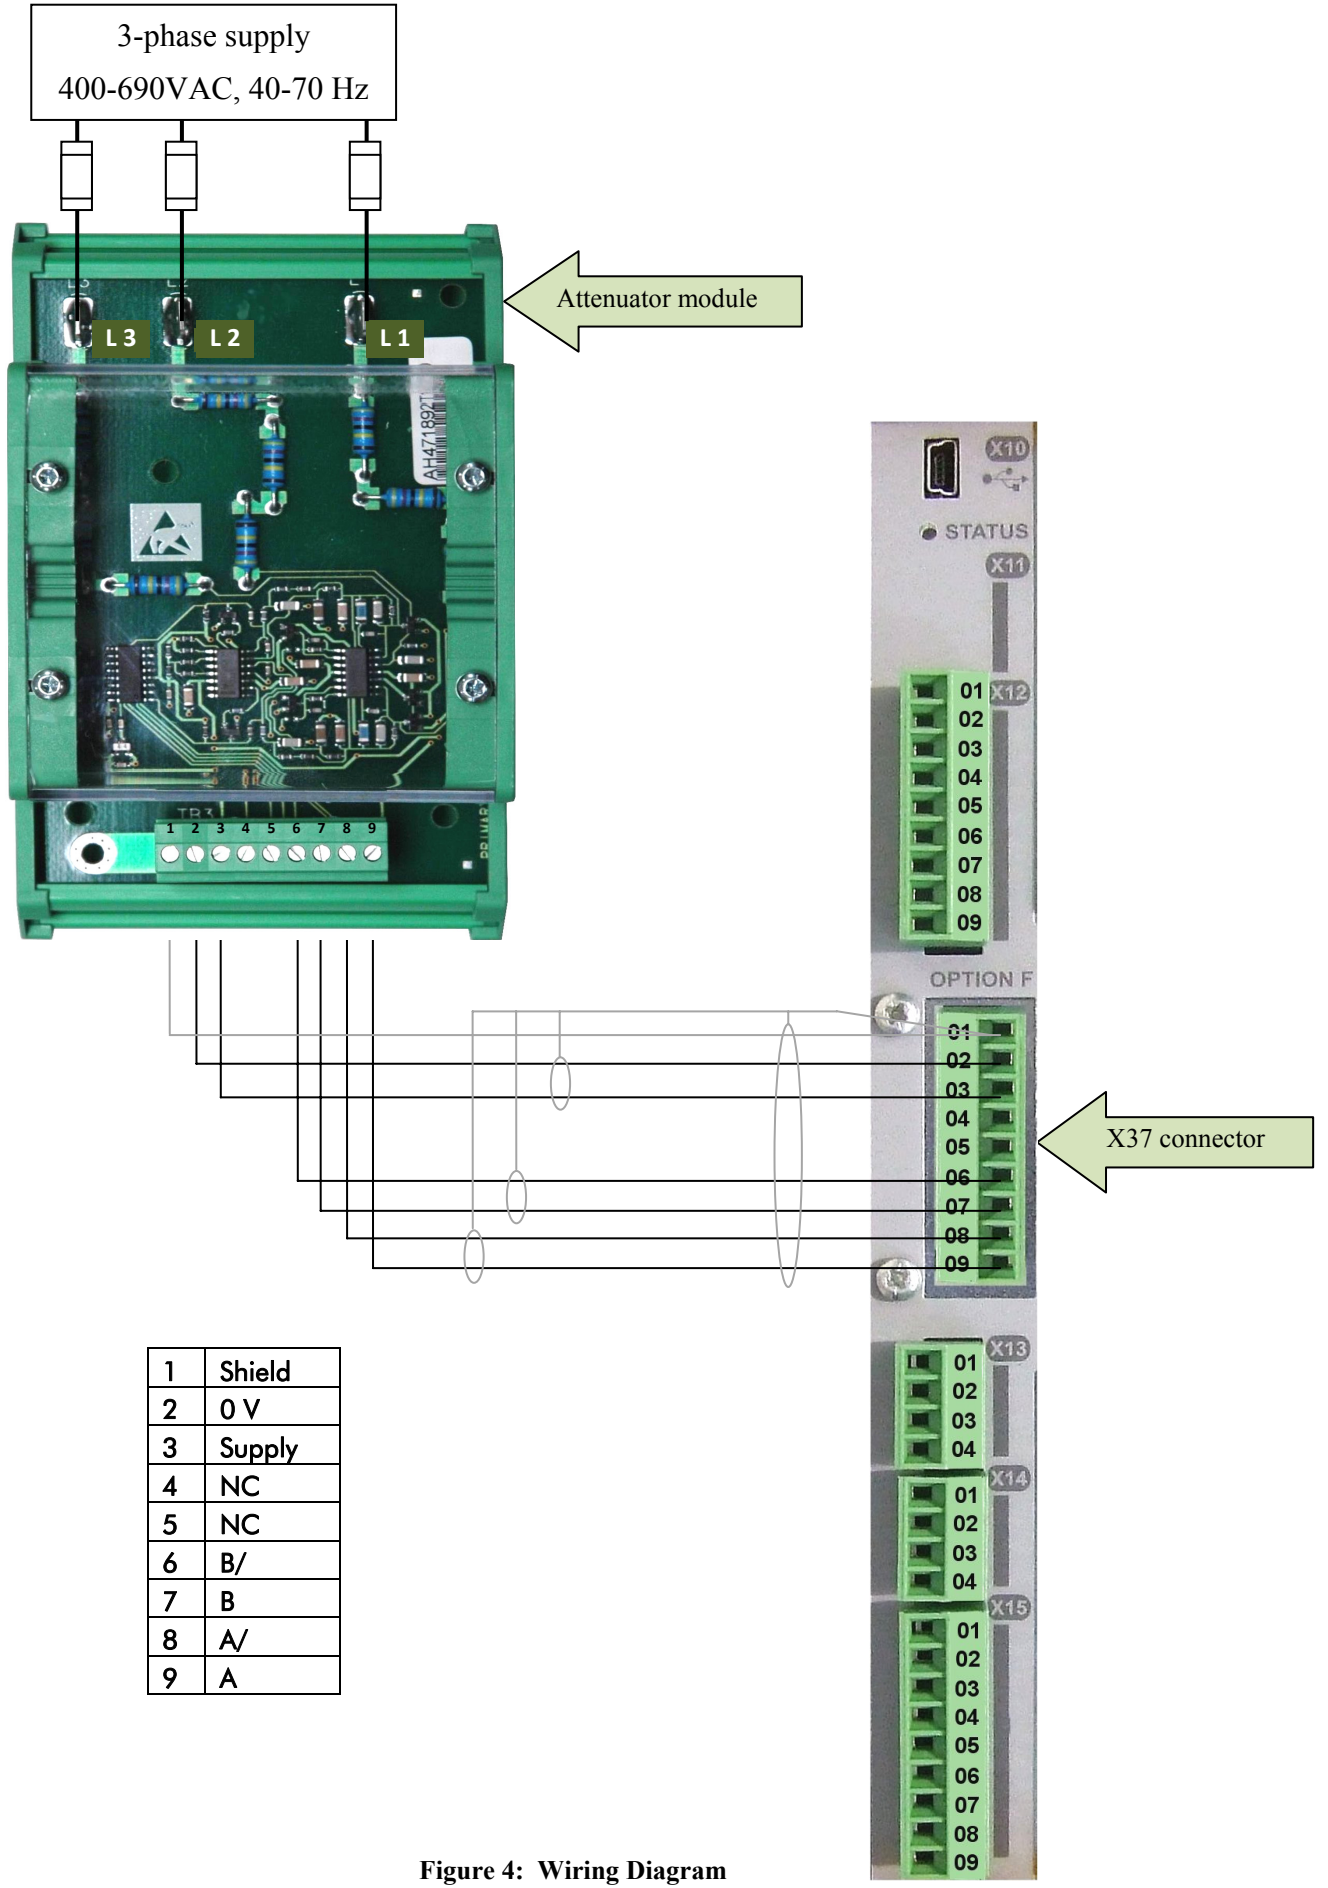

Figure 4: Wiring Diagram
2. Run a 3 twisted pair screened cable (such as an encoder cable) between the attenuator module and the 8902-LS-00 card fitted in the drive. See figure 4 on the next page.